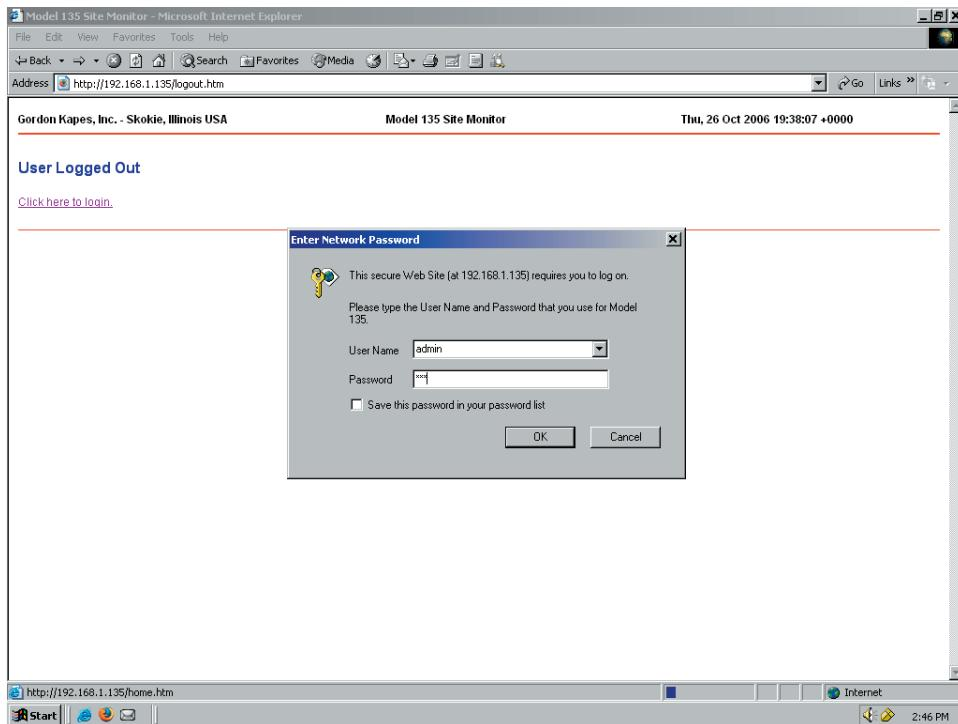
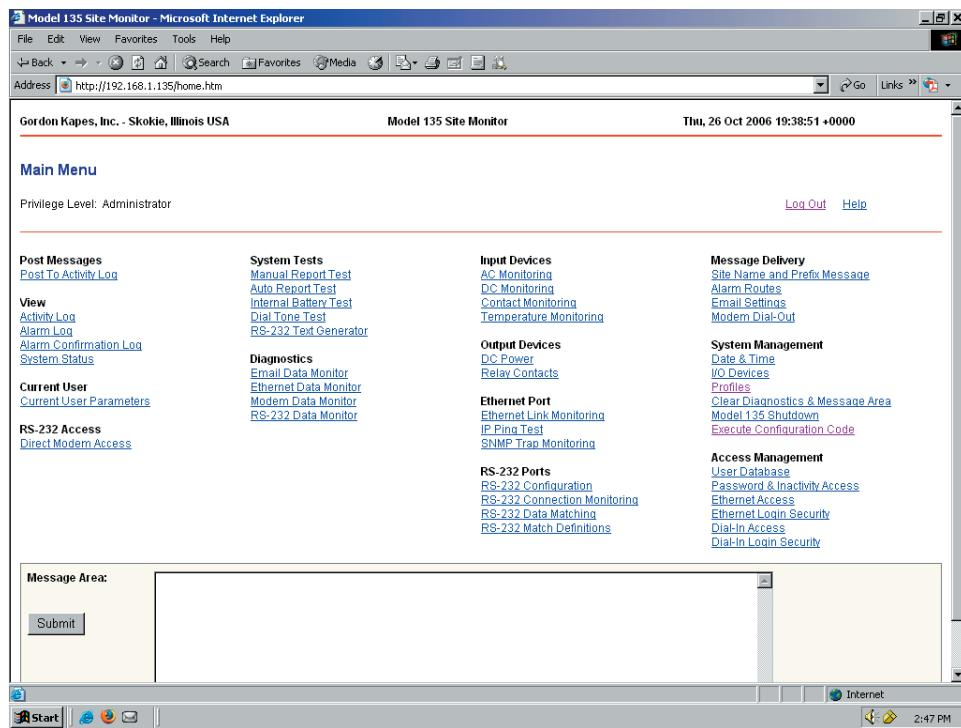
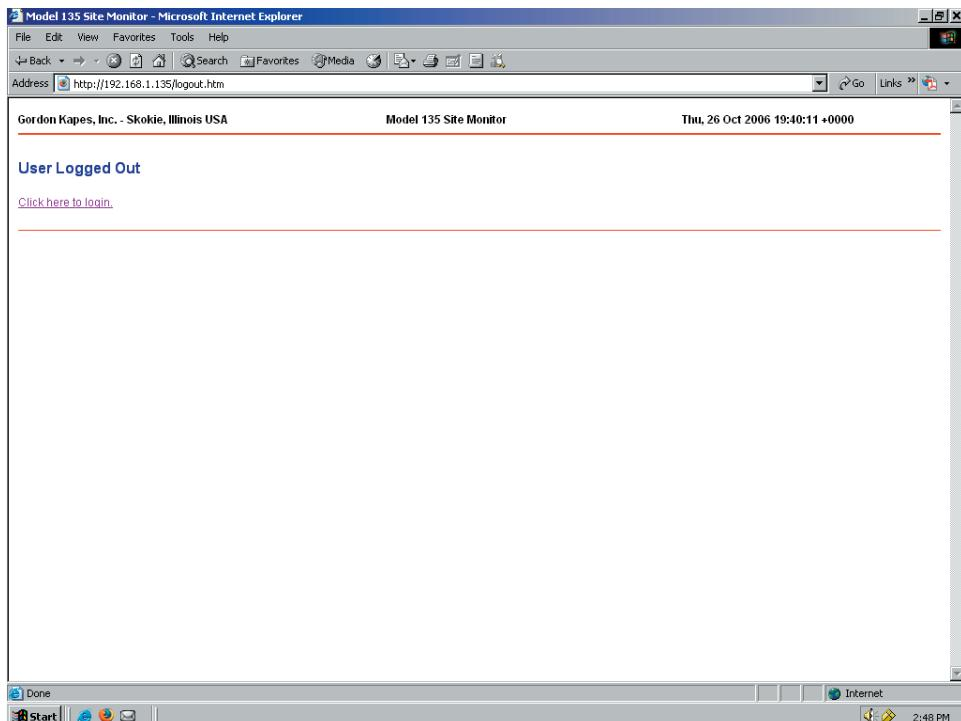

Figure 1-8. Model 135 Enter Network Password Screen
Figure 1-9. Model 135 Main Menu Screen
Figure 1-10. Model 135 User Logged Out Screen
Step 6: Turn computer back on. Upon completion of the computer boot up, open your browser and enter the following default URL address **http://192.168.1.135** to access the Model 135 Site Monitor. An Enter Network Password screen should appear requesting a User Name and Password (Figure 1-8).
Step 7: Enter the default User Name of **admin** and the default Password of **135** (Figure 1-8). Select/click OK. A successful login will bring you to the Main Menu of the Model 135 Site Monitor Application Program (Figure 1-9). This Main Menu will allow you to navigate throughout the Model 135 Site Monitor menu system allowing you to configure the operating parameters of the Model 135 Site Monitor.
Step 8: Select Log Out at any time to disconnect from the Model 135 Site Monitor (Figure 1-9 and Figure 1-10).